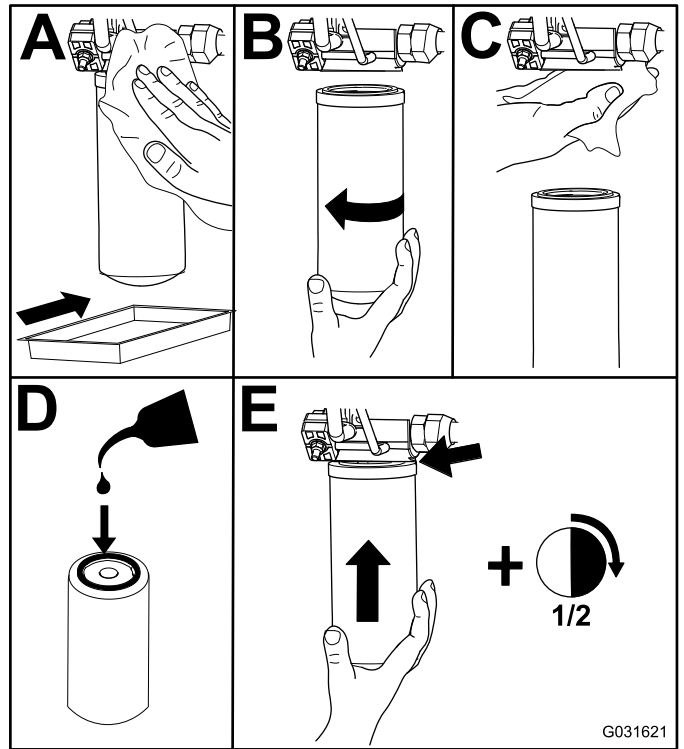

Figure 119
2. Replace the hydraulic filters (Figure 119).